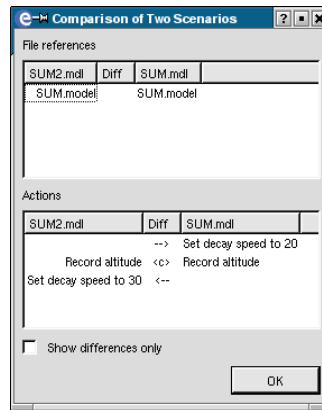

Figure 12.16: Example difference list
-> means that an item is present in B but not in A <- means that an item is present in A but not in B <-> means that there is a difference in versions between a file in both scenarios means that there is a difference in the body of two actions with the same name <c> means that there is a difference in the condition of two actions with the same name. See Figure 12.16 for an example.